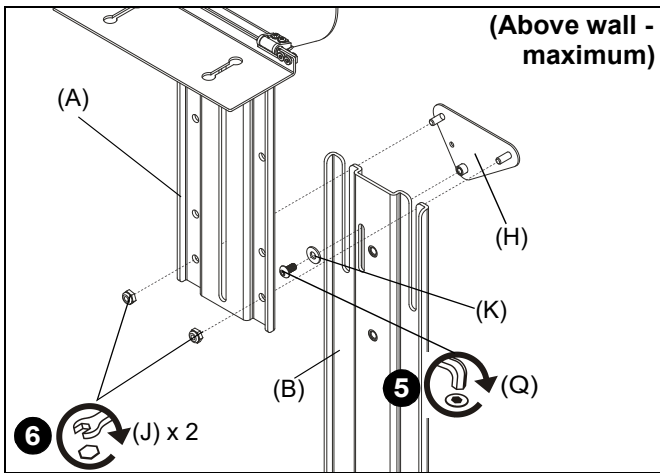

Figure 15
- (For **maximum extension**) Use #10-32 x 3/8" button head cap screw (Q) and small washer (K) to secure adapter plate (H) to main bracket (B). (See Figure 15)
- (For **maximum extension**) Use two #10-24 lock nuts (J) to secure upright bracket (A) to main bracket (B) and adapter plate (H). (See Figure 15)